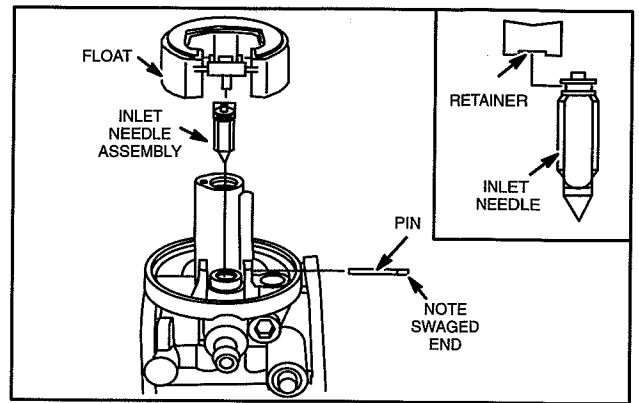

Fig. 38 – Install Float
- a. Install float hinge pin with swaged end out, Fig. 38.